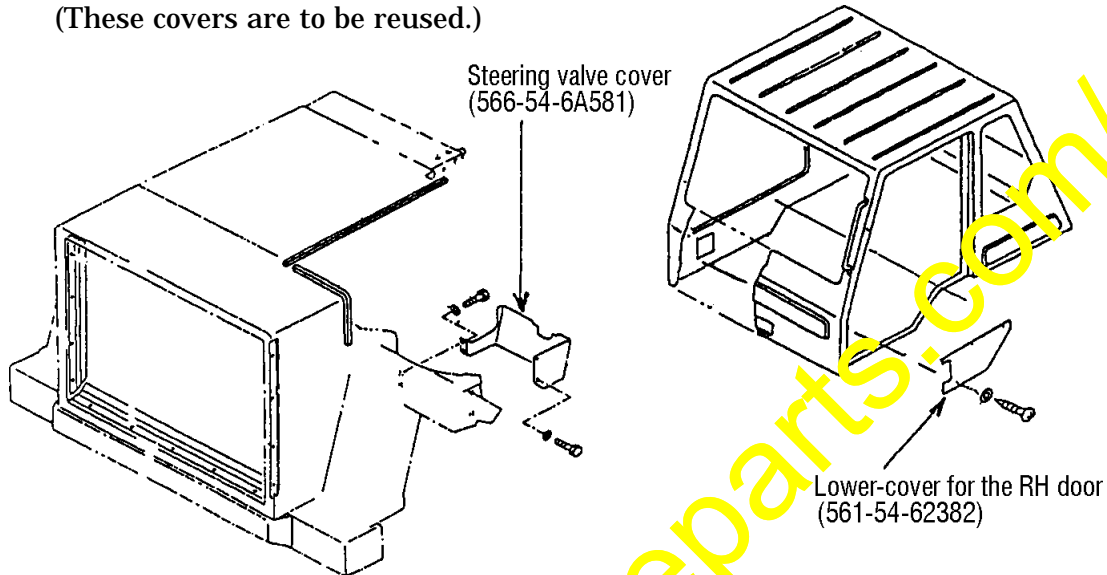

Fig. 1
(1) Covers (Refer to Fig. 1.)
- ① Remove the steering valve cover (566-54-6A581) located underneath the operator's cab.
- ② Remove the lower-cover (561-54-62382) for the RH door.